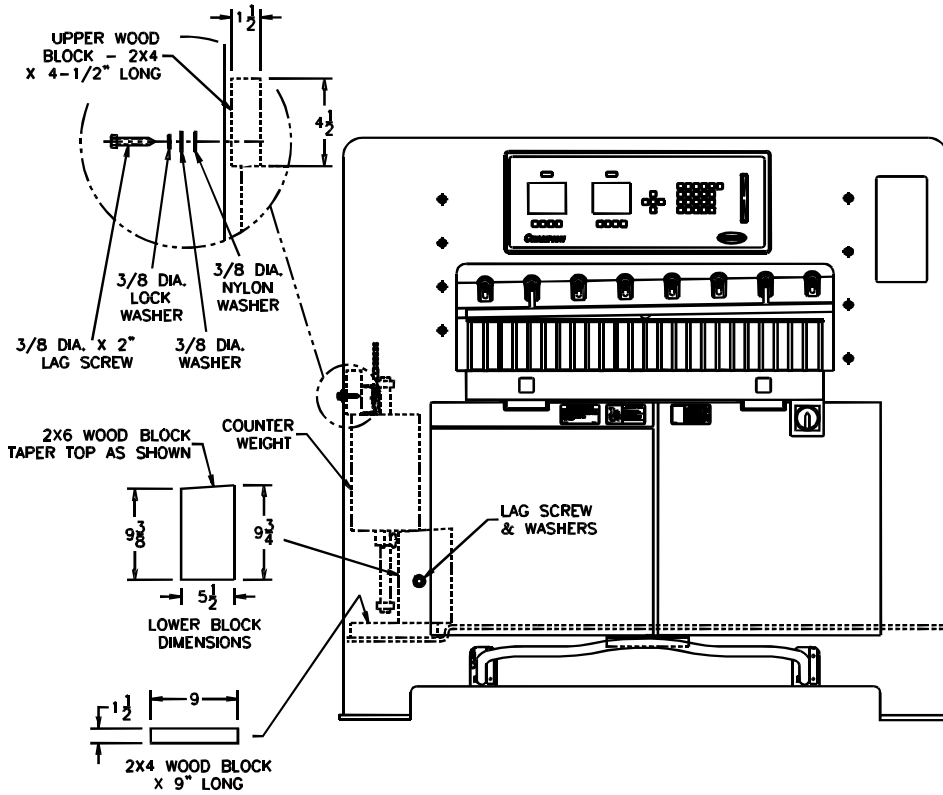

Figure 2
Make sure that both of the rollers, for the counter weight, are riding on the guide shaft. It is possible that during shipping, one may have moved off of the shaft. The rollers are located on the top and bottom of the counter weight. The counter weight is located inside the left front enclosure door behind the clamp cylinder. Make sure if the machine is ever reshipped the counter weight is blocked up so that there is slack in the counter weight chain and the counter weight does not bounce (Figure 2). The counter weight should be blocked/ held up with a wood 2x4 piece of lumber 11-5/8" long. This block needs to be secured in place with a lag screw and washers as shown in Figure 2, page 12.
- Block the counter-weight according to Figure 2.